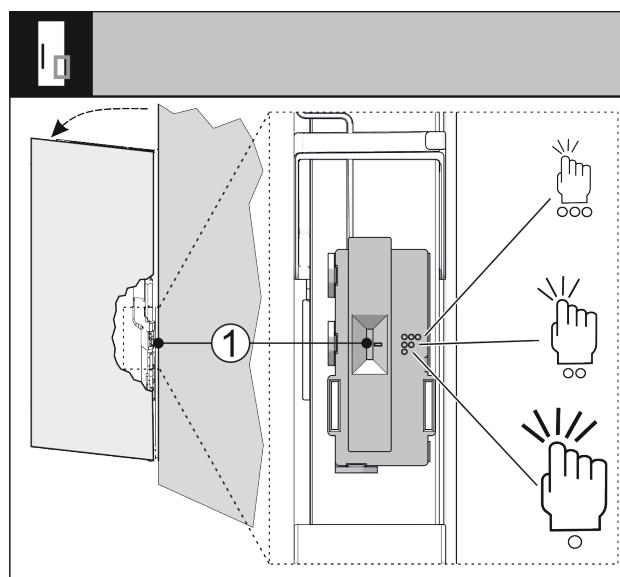

Fig. 35
You can use a switch Fig. 35 (1) to adjust the sensitivity of the knocking sensor. The switch is on the bottom third of the door on the hinge side.
- Move the switch Fig. 35 (1) to the required switch position.